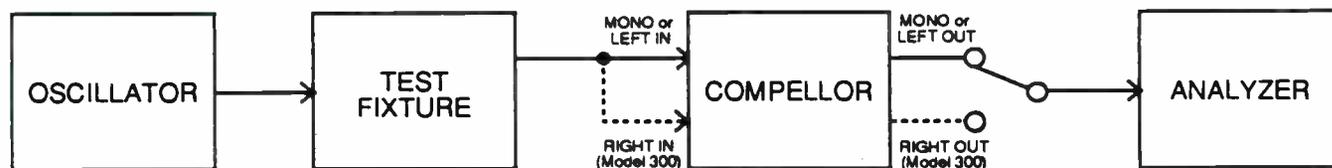
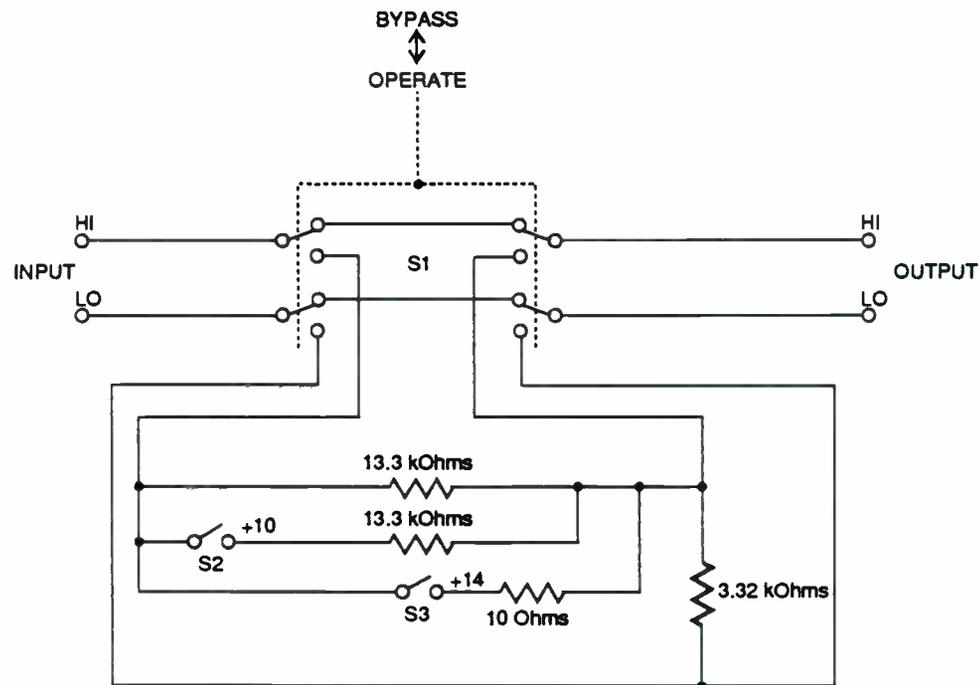

Fig. 7-1. Block diagram of test set-up.
Fig. 7-2. Suggested test circuit used in the Peak Limiter test.
To properly implement the tests, refer to Fig. 7.1 and Fig. 7.2 for the proper test set-up and a special test fixture for peak limiter testing.
5. Feed inputs through the special test fixture, as shown in Fig. 7-2.